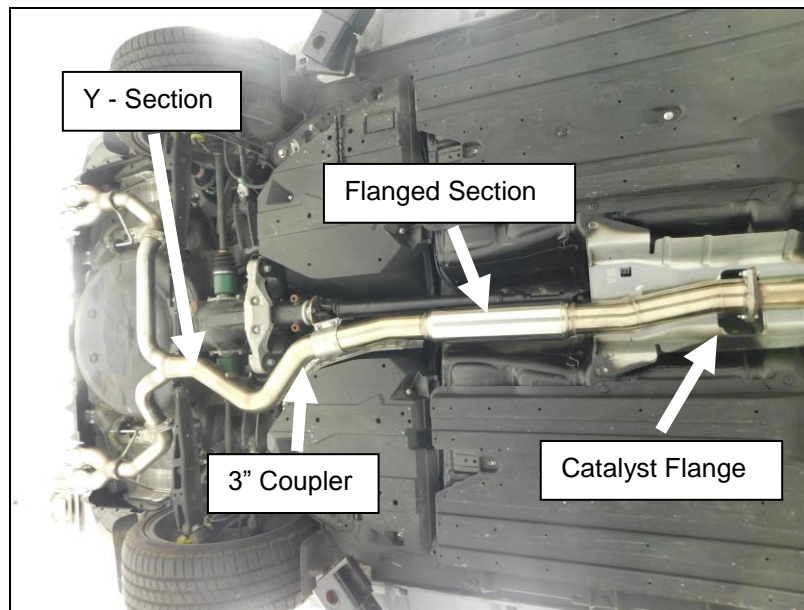

Figure 3
2. Install the Blackheart mid pipes 3" single flanged section on to the catalytic converter flange using the supplied M8 x 35mm bolts and flanged nuts (**Figure 3**).
3. Install the mid pipes Y-section into the vehicle (**Figure 3**). Slide the isolator on to the vehicles exhaust hanger rod and support the mid pipe.
4. Install the supplied 3" coupler on to the outlet of the previously installed flanged section (**Figure 3**).
5. Align the inlet of the Y-section to the flanged section and slide the coupler on to the pipe with a 50/50 split between the flanged section and the Y-section. Tighten the nuts of the coupler to allow for adjustment (**Figure 3**).